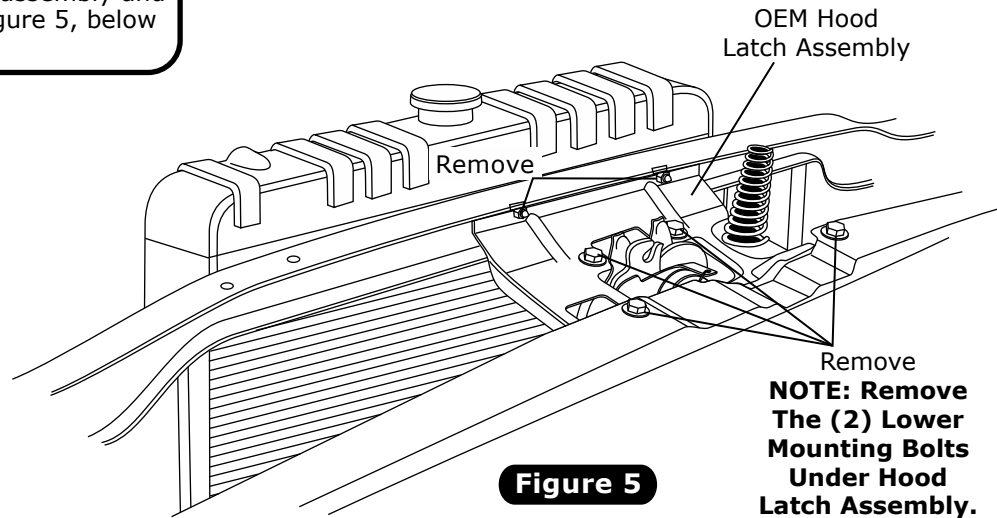

Figure 5
1. Remove OEM hood latch assembly and hardware as shown in Figure 5, below (retain).